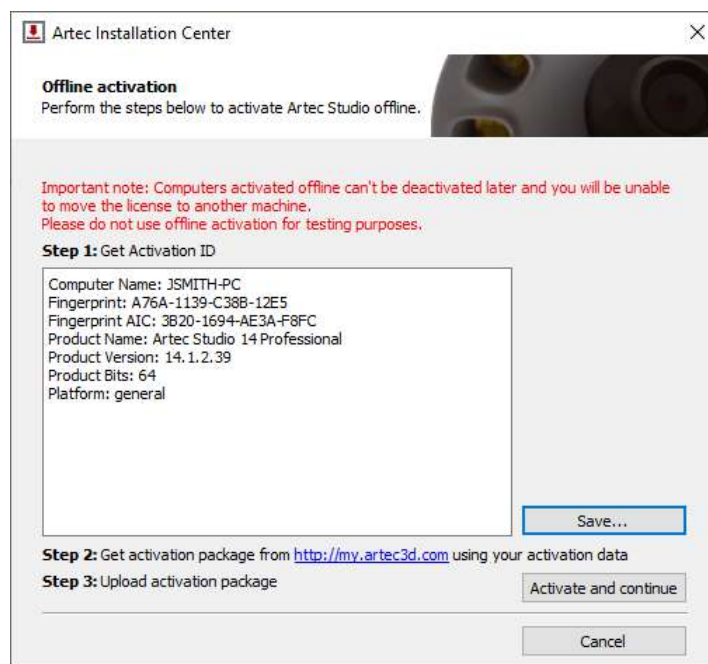

Figure 31: Offline-activation window
4. In the offline-activation dialog (Figure 31), click *Save...* and save generated Activation ID file to a flash drive or other storage medium.